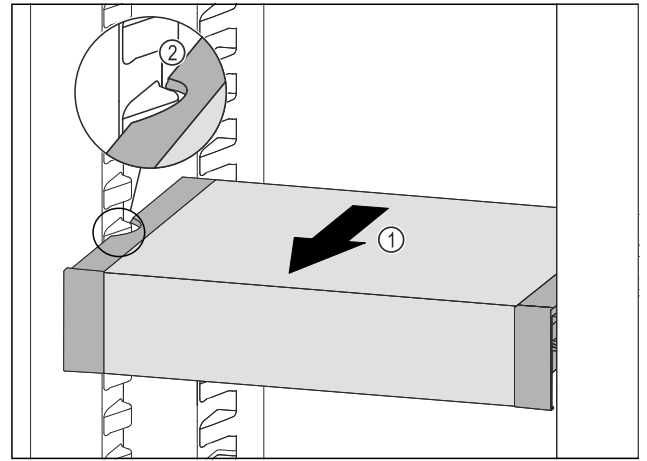

Fig. 164
- ▶ Pull VarioSafe forwards Fig. 164 (1) until the recesses in the side of the VarioSafe are at the level of the support rib in the fridge section. Fig. 164 (2)